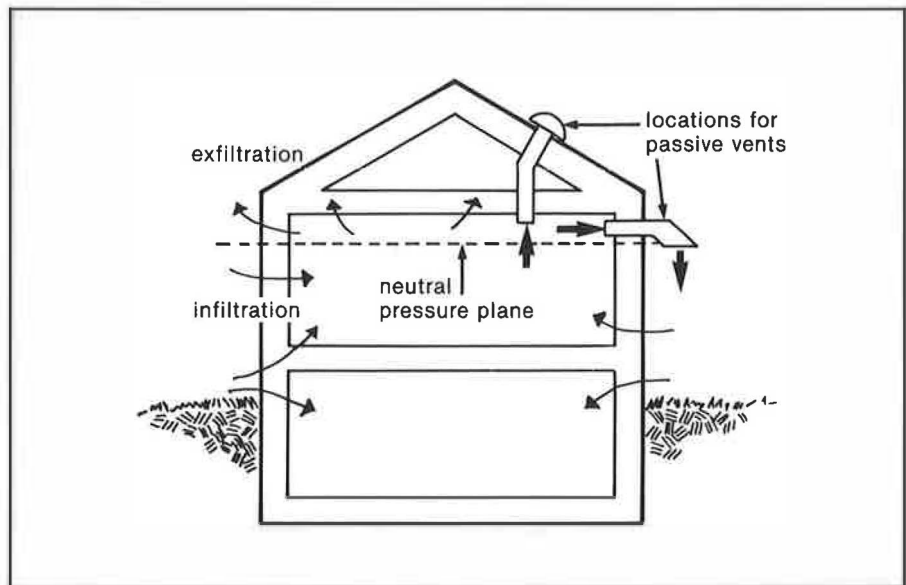

Fig. 6. Passive ventilation.
- Passive venting can be an effective ventilation technique if properly engineered. It may not be suited to cold climates or leaky houses. A “planned hole” approximately 100 mm (4”) in diameter placed high in the house, or a dummy chimney (“stack vent”), serves to raise the neutral pressure plane. This decreases the area subject to unwanted exfiltration of moist house air. Note that passive vents must be insulated above the ceiling (fig. 6).